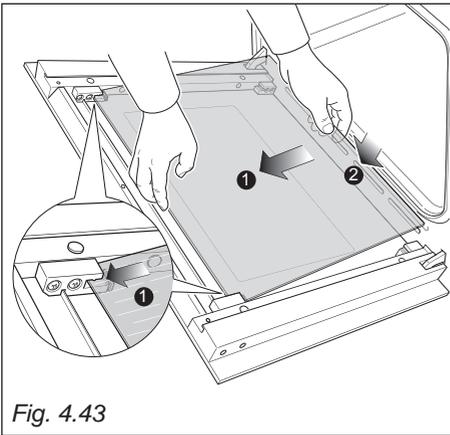
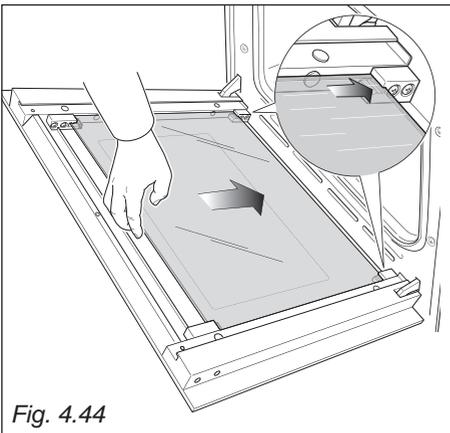

Fig. 4.43
Fig. 4.44
- Gently insert the top edge of the pane into the top clamps (arrow 1 in fig. 4.43), then lower the pane and insert the bottom edge into the bottom clamps (arrow 2 in fig. 4.43); and then slide the pane into position (fig. 4.44).